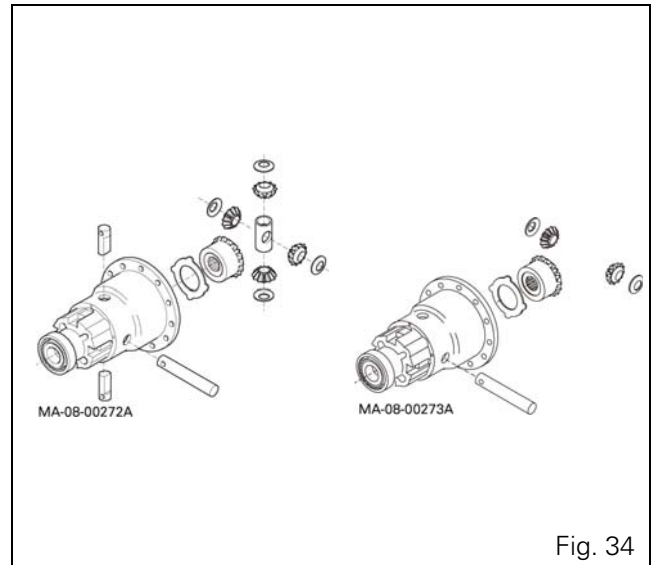

Fig. 34
39. Position one of the half-bearings on a workbench and install the internal parts (thrust washer, sun gear, pinion gears, spider) as shown in the figure. Introduce the short pins and the long pin (only the long pin for model 20.19) into their housing, holding the pinion gears and spider correctly in place (Fig. 34).